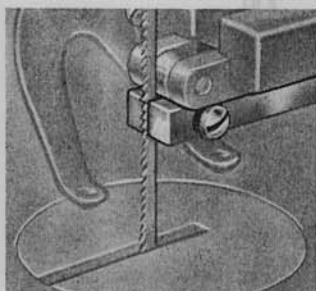

Fig. 3 Position of blade in blade guide.
5. Blade Guide and Blade Support Wheel, located directly above the work hold-down, support the blade and keep it running true (see Figure 2). Both can be adjusted vertically and horizontally. For vertical adjustment, loosen the thumb screw on left side of saw arm—for horizontal adjustment, loosen the two screws on top of the guide. Blade guide may also be adjusted for any width blade by turning the machine screw on the side of the blade guide. Both wheel and guide should be adjusted so that blade rubs against them lightly. Position the blade guide so that the front edge is even with the bottom of the blade teeth as shown in Figure 3.
ADJUSTING BLADE GUIDE AND BLADE SUPPORT WHEEL—loosen the two screws on top of the guide. Adjust both wheel and guide so that the blade rubs against them **LIGHTLY**—positioning front of guide even with the bottom of the blade teeth (See Figure 3).